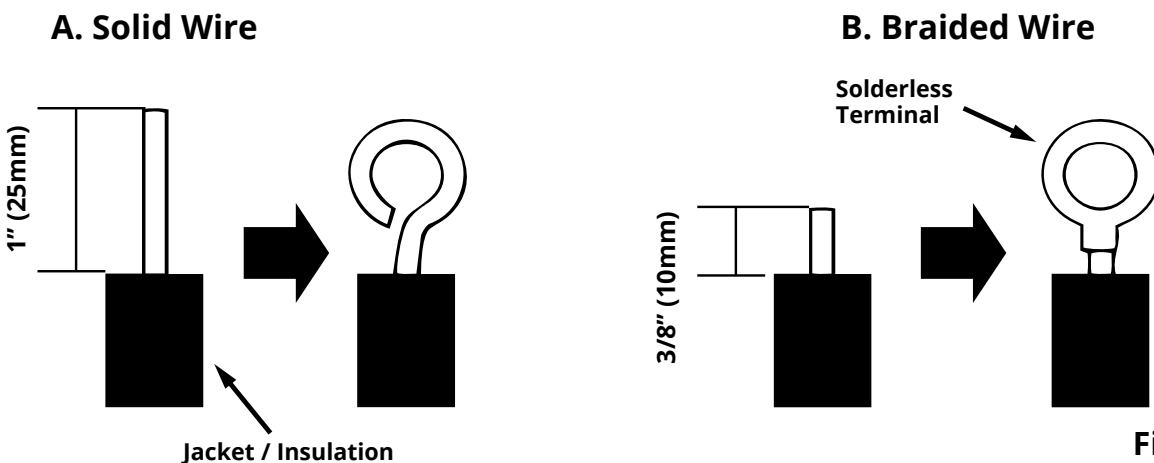

Fig. 2.10
For solid wires (Refer to **Fig. 2.10 A**):
For braided wires (Refer to **Fig. 2.10 B** & **Fig. 2.10**):
4. Locate the round terminal conduit. Use a screwdriver to replace it and tighten the terminal screw (as shown in **Fig. 2.10**).